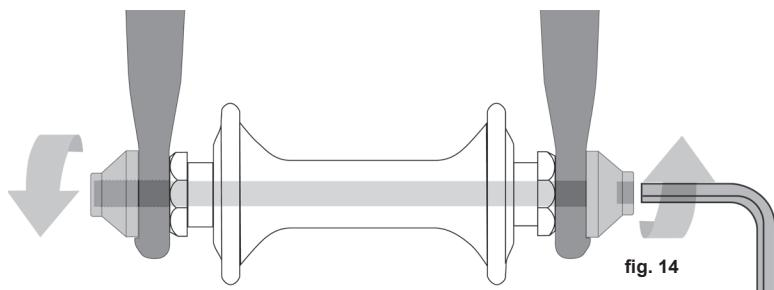

fig. 14
2. A hollow axle with a shaft ("skewer") running through it which has a nut on one end and a fitting for a hex key, lock lever or other tightening device on the other (through-bolt, **fig. 14**).